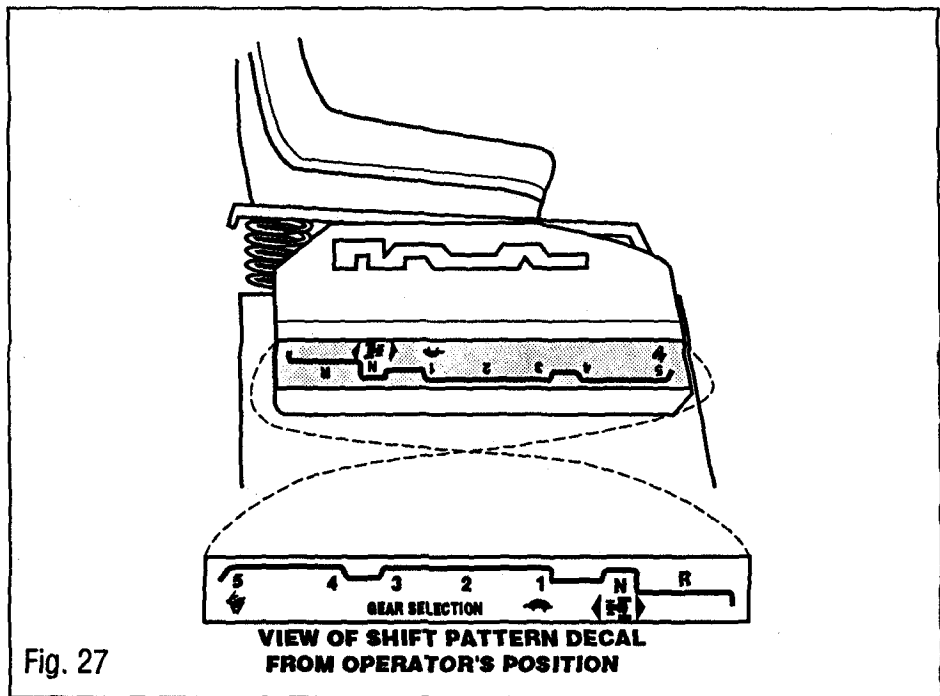

Fig. 27
neutral, or one of five forward gears. (See SPECIFICATIONS on page 6 for average speeds in some of these gears). Until you become familiar with the riding mower, use only the lower gears — either 1, 2, or 3. See Fig. 27 for detailed shifting pattern.
- 13. Place transmission shift lever into N (Neutral) (Fig. 27).
6. Move the transmission shift lever (See Fig. 27, page 18) to N (Neutral).